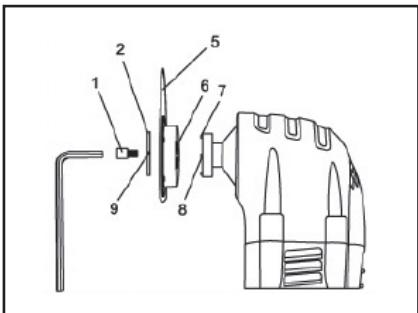

Fig. 2
2. Place the blade (5) on the accessory holder (Fig. 2)
1. Install the plunge cutting wood saw blade for wood in the tool (Fig. 2).
1. Install the plunge cutting saw blade for wood in the tool (Fig. 2)
1. Install the half circle saw blade for wood & drywall in the tool (Fig.2)
1. Install the sanding pad on the multi-tool as outlined in Fig. 2